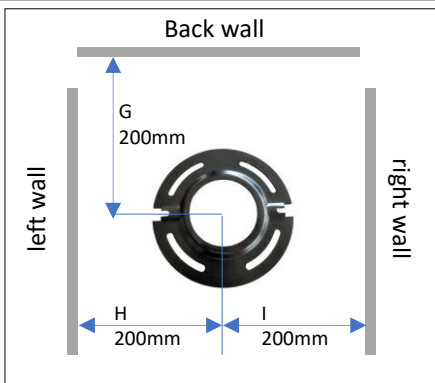

Fig.1
1. To replace an older toilet, turn off water supply to toilet. Remove and drain water supply line. Remove toilet hold-down bolts/screws. Remove the toilet from the floor. Remove and discard old flange seal and hold-down bolts. Verify the center of floor flange is at least 200mm / 7.9" from back wall (**Fig.1**)
2. If installing a new floor flange, make certain that toilet mounting holes are located at the correct angle (**Fig.1**). Floor flange must be secured to the floor with a minimum of four screws. Insert two supplied T-bolts into slots in the floor flange(**Fig.2**).